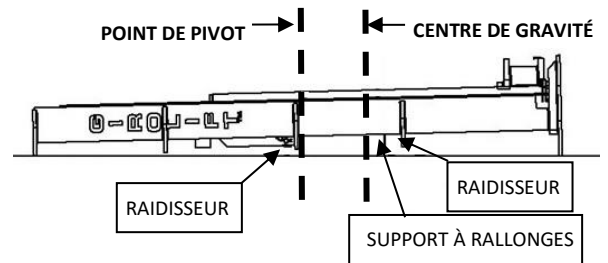

FIGURE 8 : POINT DE PIVOT ET CENTRE DE GRAVITÉ SUR UNE COLONNE AU SOL
3.1 À L'AIDE D'UNE SANGLE DE LEVAGE ET D'UN ÉQUIPEMENT DE MANUTENTION SÉCURITAIRE ET ADÉQUAT, AMENER UNE COLONNE À LA FOIS LE PLUS PRÈS POSSIBLE DE SON SITE D'INSTALLATION ; PLACER LA SANGLE DE LEVAGE AU CENTRE DE GRAVITÉ (RÉPARTITION ÉGALE DU POIDS) DE LA COLONNE. VOIR **FIGURE 8**.
- 3.3** DÉPLACER LA SANGLE DE LEVAGE AU POINT DE PIVOT SOUS LE RAIDISSEUR. VOIR **FIGURE 8**.